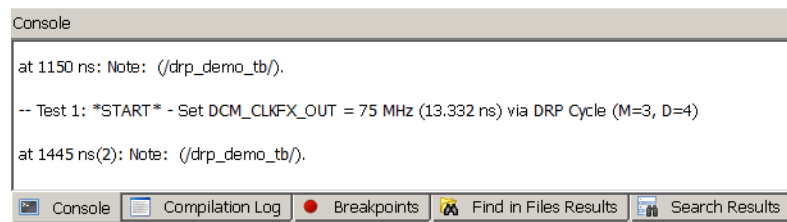

Figure 3-24: Console Window
1. In the Console panel, identify the simulation times when each test has started. For example, **Test 1** starts at about 1,150 ns, as shown in Figure 3-24.